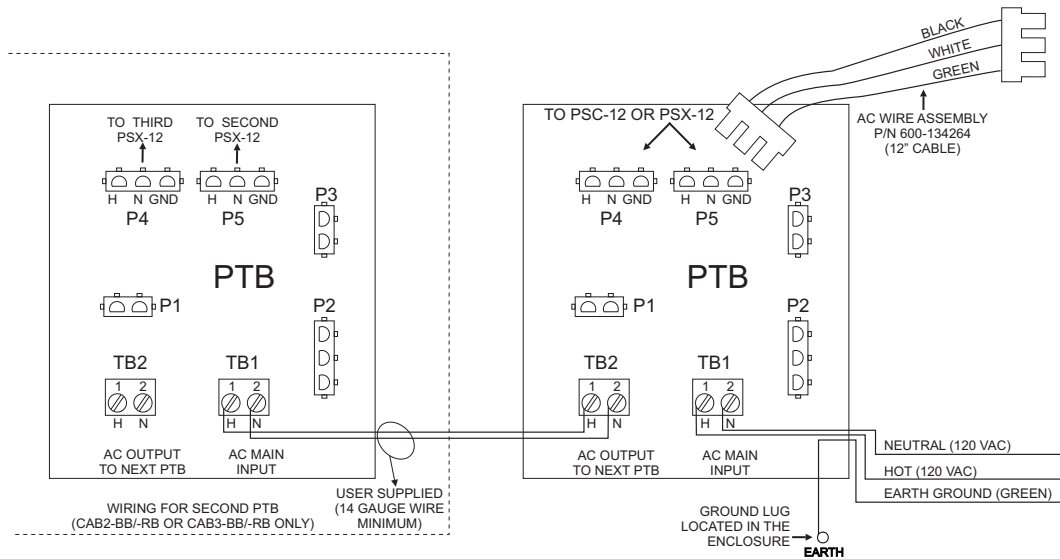

Figure 3
Refer to Figure 3.
5. When two PTBs are used in the same enclosure (CAB2-BB/-RB or CAB3-BB/-RB only), wire as shown in Figure 3 using 14 AWG minimum, 10 AWG maximum gauge wire.